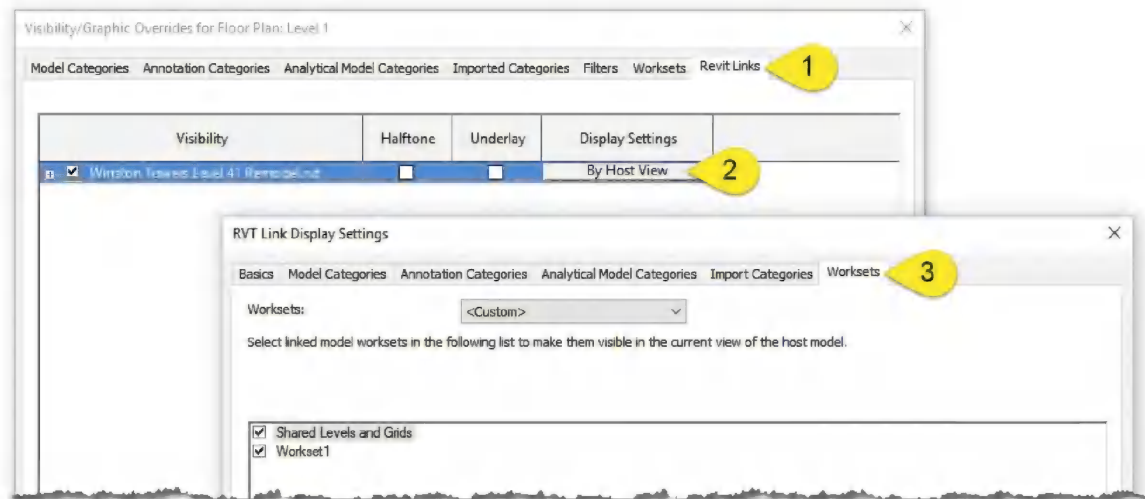

FIGURE 16-2.19 Worksets in linked models
- Click the **Revit Links** tab (Figure 16-2.19)